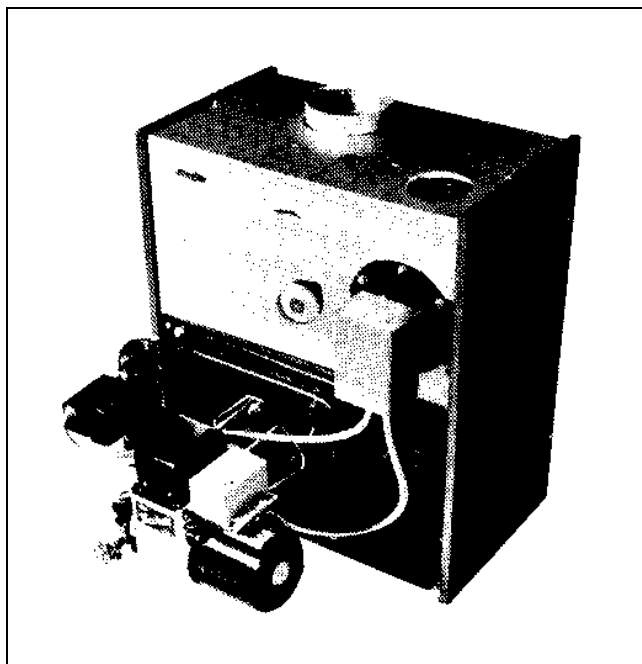
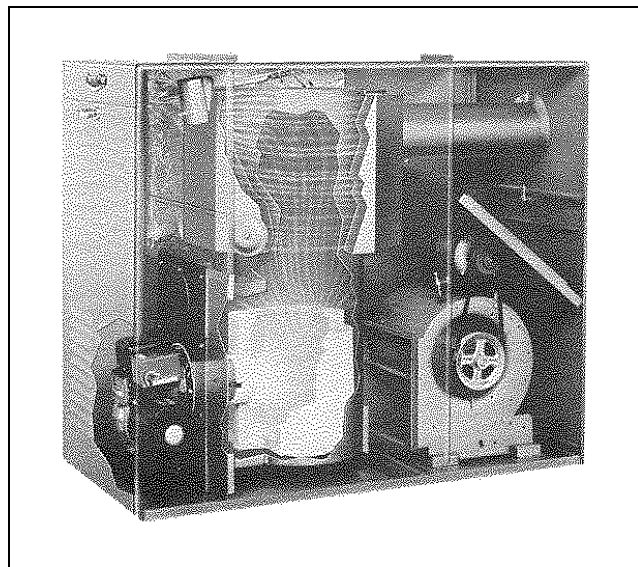

Figure 4. High Efficiency Replacement Oil-Fired Boiler - Typical Savings 20 - 40%.
Figure 5. High Efficiency Replacement Oil-Fired Warm Air Furnace - Typical Savings 20 - 40%.
Replacing an older heating system with a new, energy efficient furnace (Figure 5) or boiler (Figure 4) involves a substantial initial expenditure that pays off over the long term with yearly energy costs savings, lower maintenance expenses, and improved reliability. The cost effectiveness of buying a new unit depends on: (1) your present furnace or boiler condition and efficiency; (2) the new equipment efficiency, initial cost, and anticipated maintenance cost; and (3) your present annual heating cost.